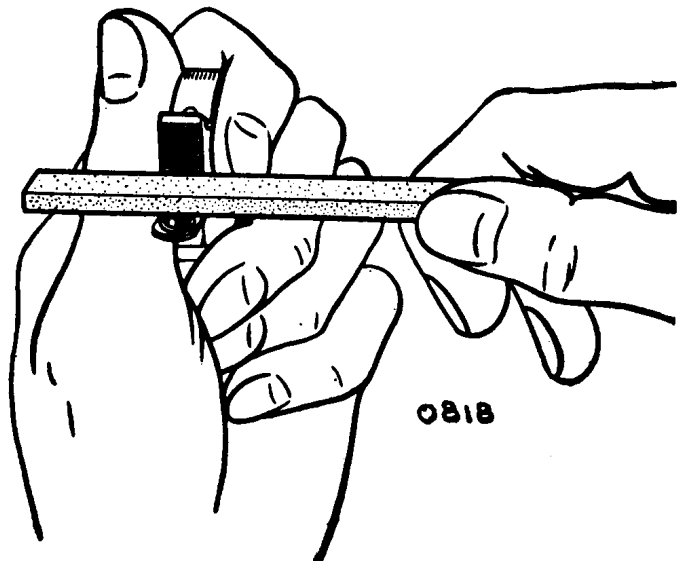

Fig. C.7
- (2) If the contacts are dirty or pitted they must be cleaned by polishing them with a fine carborundum stone and afterwards wiping them with a petrol-moistened cloth. The moving contact can be removed from its mounting in order to assist cleaning (see Fig. C.7). Check and adjust the contact breaker setting after cleaning the contacts.
- (3) Check that the moving arm moves freely on its pivot. If it is sluggish remove the moving arm and polish the pivot pin with a strip of fine emery-cloth. Afterwards clean off all trace of emery dust